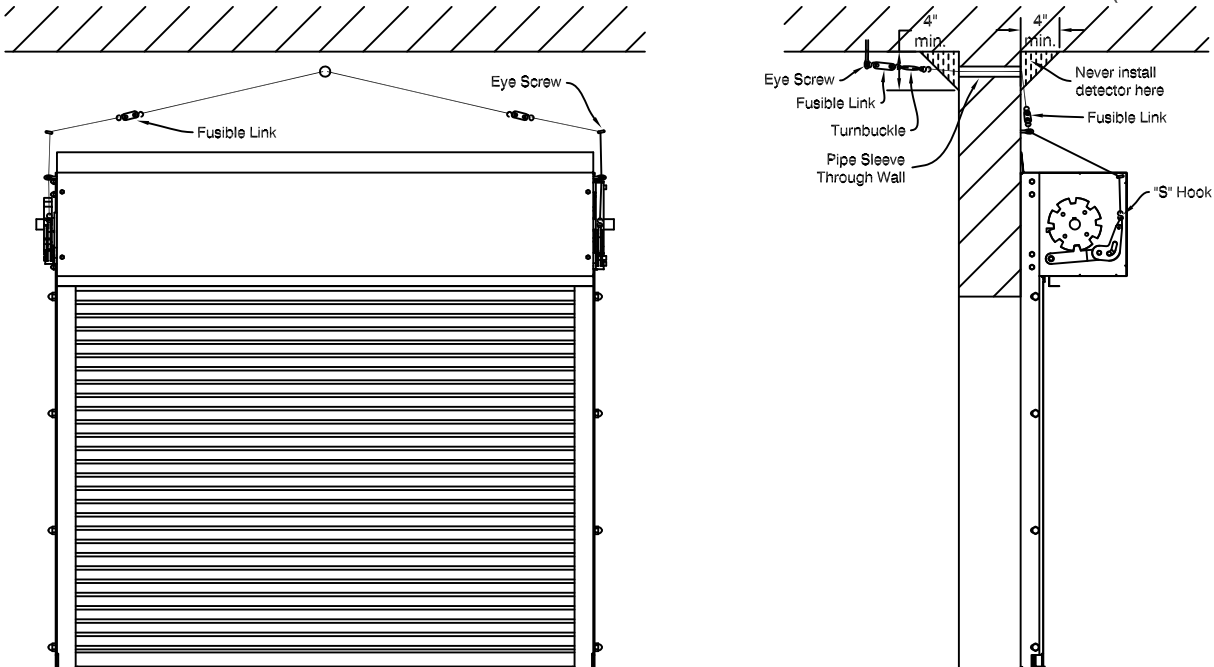

Fig. 20
2) Locate the second fusible link or detector within 12 inches of the ceiling on the coil side of the wall. Do not install a link or detector within four inches of the intersection of the wall and ceiling as shown in Fig. 20.
3) Locate the third fusible link or detector on the opposite side of the wall at a distance from the wall that will allow sufficient travel of the chain to completely release the fire door. Attach the fusible link near the ceiling straight out from the through wall hole. The detector must be more than four inches from the intersection of the wall and ceiling as shown in Fig. 20.